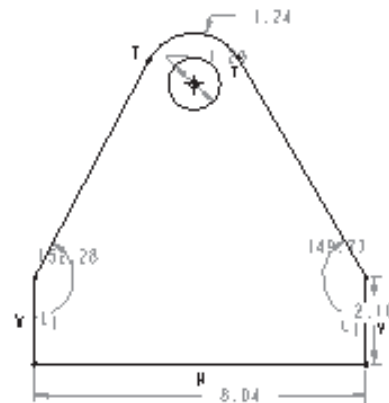

Figure 1-36 Sketch with all the entities, weak dimensions, and weak constraints
4. Press the middle mouse button to end circle creation. The sketch is complete and appears similar to that shown in Figure 1-36.
*When you are not using the **Intent Manager** to draw a sketch, constraints are applied to the sketch automatically but you can view these constraints only when you choose **SKETCHER > Constraints** or when the sketch is regenerated. You cannot apply constraints manually; therefore you may need to dimension some entities that have equal dimensions. For example, lines H and F in Figure 1-36 have equal dimensions but you may need to dimension both of them.*